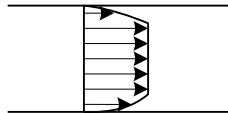

Figure 2-2: Plug flow of a Binghamian fluid.
2. Plug flow will occur since shear stress is low in the middle of the pipe. The Bingham model predicts an $YP = 9.1 \text{ Pa}$. This is a theoretical value, but given time at laminar flow gel strength will develop, in fact approaching the level of the YP. Shear stresses below this level will lead to gel (flocculation) as shown in Figure 2-2